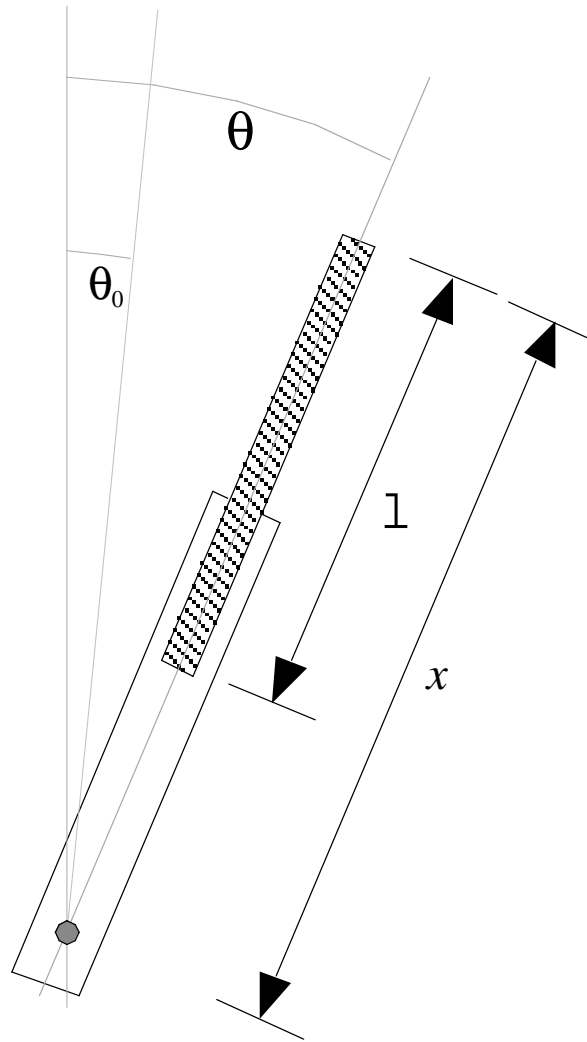

Figure 3: The variables θ and x and the parameters θ_0 and l are shown here.
4. Write the pendulum equation of motion in the case of a horizontal rotation axis, as a function of the angle θ (see figure 3) and of x , κ , θ_0 , M_1 , M_2 , the total moment of inertia I and the position $R(x)$ of the center of mass. *[1 point]*